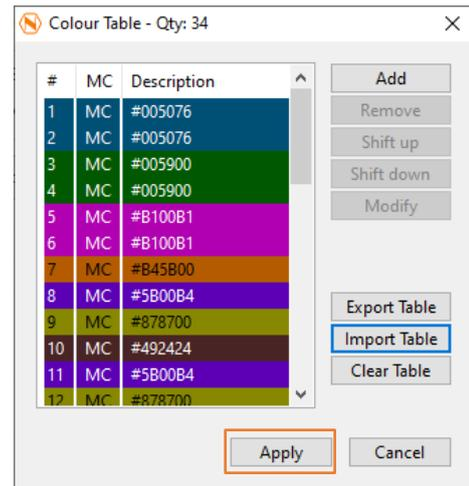

Figure 269
- 63. The included colors of the selected color table file are imported and listed as shown in Figure 269. Click **Apply**.